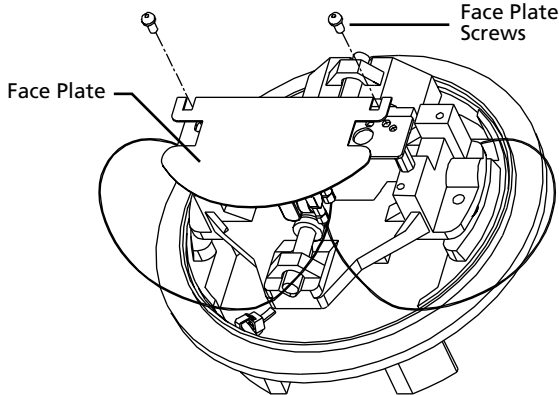

Figure 23. Attaching Face Plate
9. Attach the face plate over the WOPI and screw down using the two 6-32 x 1/2-inch screws provided in your installation kit. Make sure the WOPI bracket is parallel to the meter disk surface. See Figure 23.